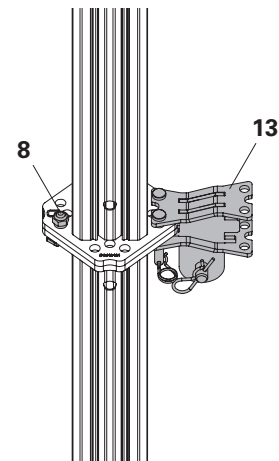

Fig. A5.01b
If the Brace Connector MPR is permanently installed, a Screw with Nut MP (8) on the side opposite the connection is sufficient. (Fig. A5.01b)